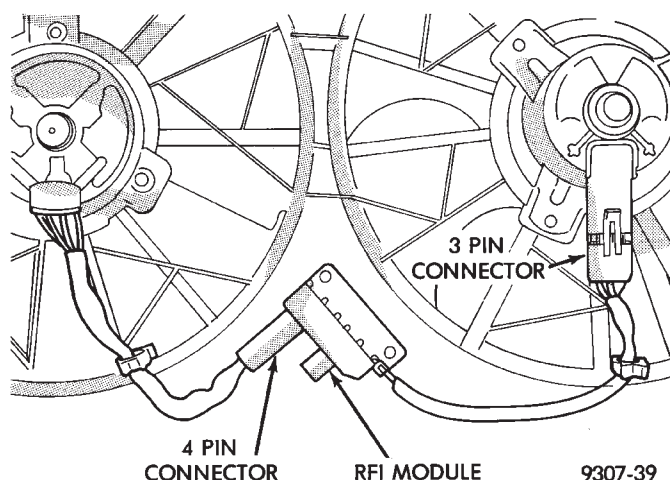

Fig. 11 Electric Fan Motor RFI Module
- (6) Disconnect the fan wiring connector from the RFI module (Fig. 11).